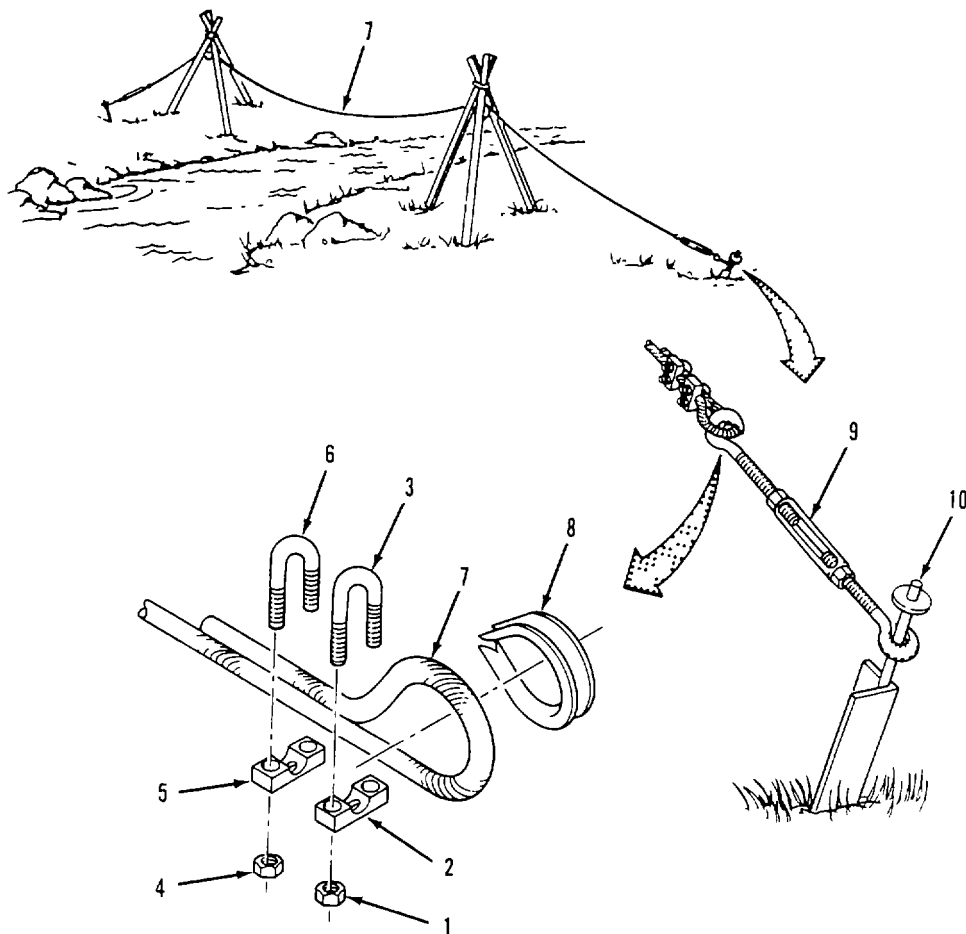

Figure 2-34. Wire Rope and Turnbuckle Disassembly
Disassemble Wire Rope and Turnbuckles Refer to figure 2-34.
- (27) Push up on toggle levers (19) and lock retaining brackets (18) against metal rims (15).
- (28) Repeat steps (17) through (28) until entire hose length(1000 feet) has been packed in flaking box.
- (29) Remove pullboard (11), hoist (12) and retaining brackets (18) from flaking box (14).
- (30) Remove nut (1, figure 2-34) and eyebolt (2) from front wall of flaking box (4).